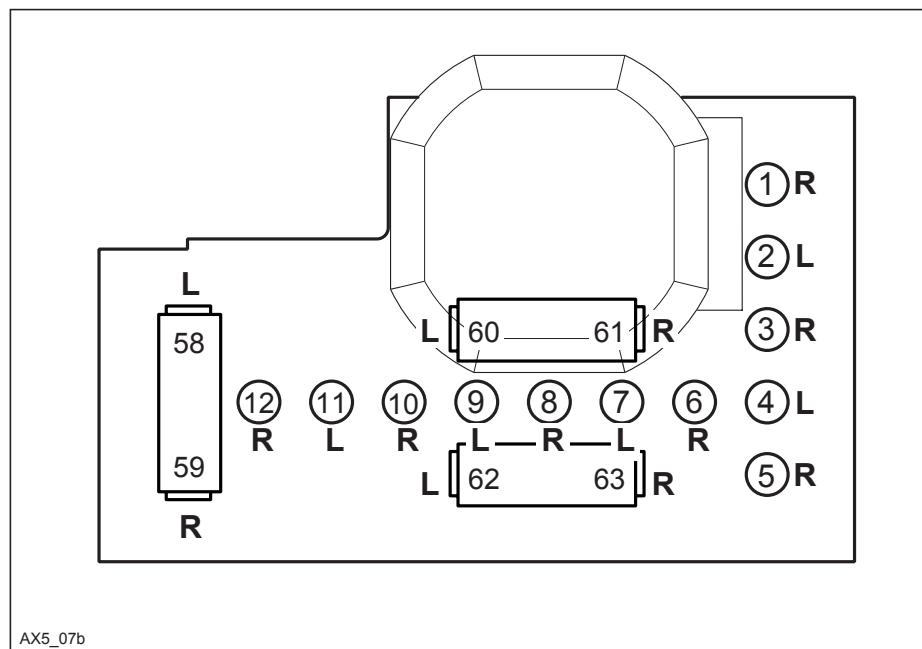

Fig. 7
- Insert the clockwise rotating bits into spindles R and the counterclockwise rotating bits in spindles L (See Fig.7)